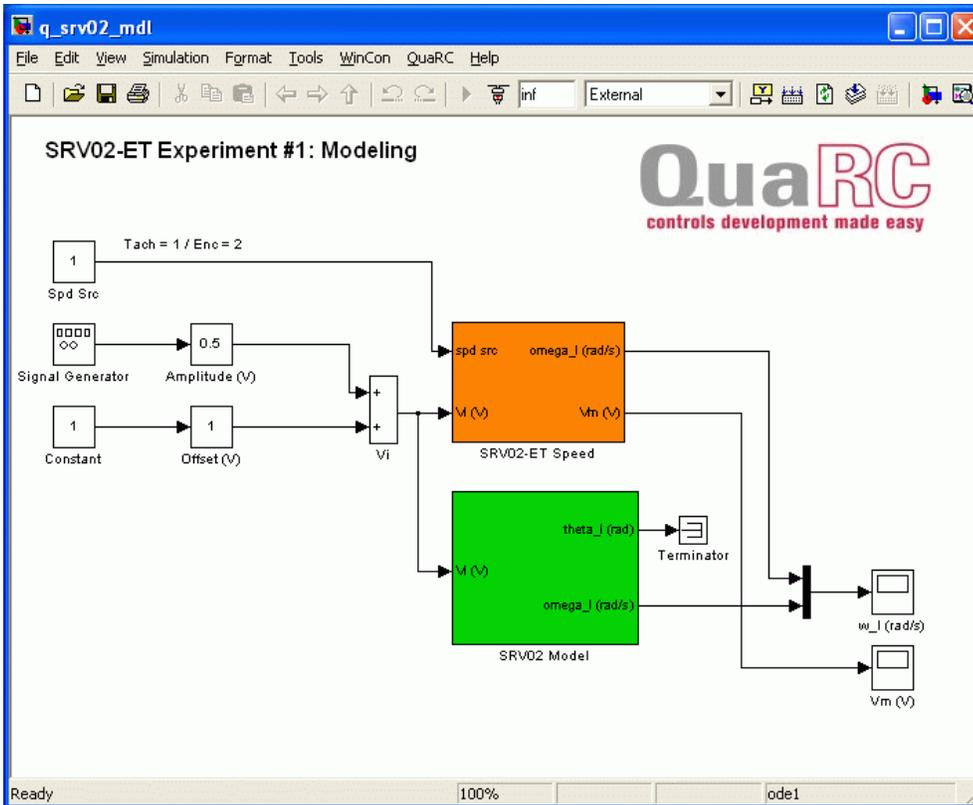

Figure 5: *q_srv02 mdl* Simulink diagram used to model SRV02.
The *q_srv02 mdl* Simulink diagram shown in Figure 5 is used to perform the modeling exercises in this laboratory. The *SRV02-ET* subsystem contains QUARC blocks that interface with the DC motor and sensors of the SRV02 system, as discussed in Reference [6]. The *SRV02 Model* uses a Transfer Fcn block from the Simulink library to simulate the SRV02 system. Thus both the measured and simulated load shaft speed can be monitored simultaneously given the set open-loop input voltage.
4. Double-click on the *q_srv02_mdl.mdl* file to open the Simulink diagram shown in Figure 5.
5. **Configure DAQ:** Double-click on the HIL Initialize block in the Simulink diagram and ensure it is configured for the DAQ device that is installed in your system. For instance, the block shown in Figure 5 is setup for the Quanser Q8 hardware-in-the-loop board. See Reference [6] for more information on configuring the HIL Initialize block.
6. **Configure Sensor:** The speed of the load shaft can be measured using various sensors. Set the *Spd Src* Source block in *q_srv02_mdl*, as shown in Figure 5, as follows: